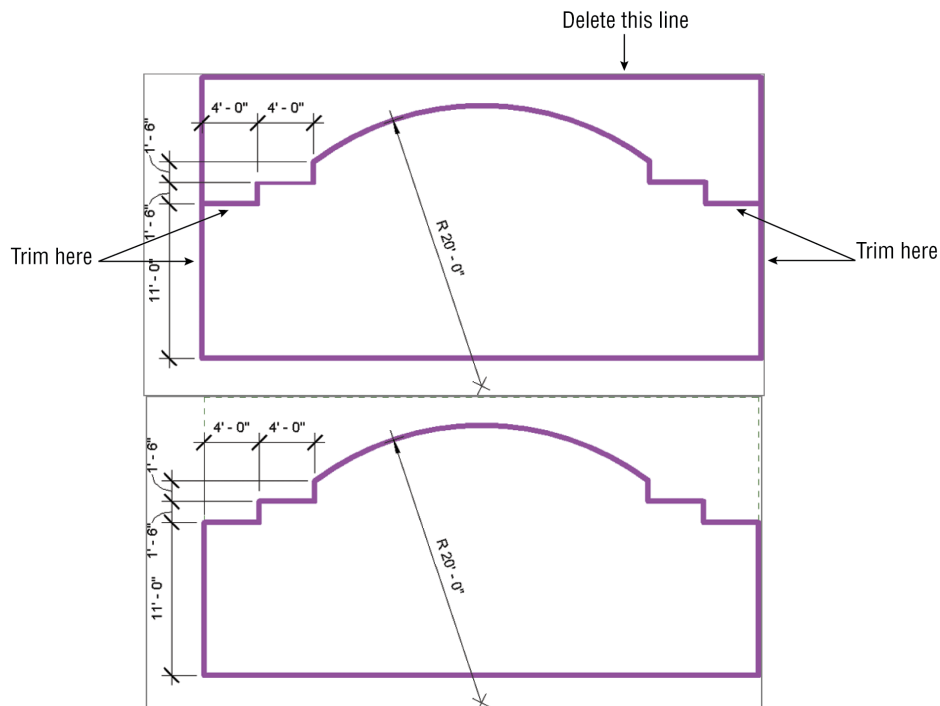

FIGURE 2.12 Adding new sketch lines
2. From the South Elevation view, create the sketch as shown in the top illustration in Figure 2.12.
Note that the reference lines indicating the extents of the original wall remain, as shown in the bottom illustration in Figure 2.12.